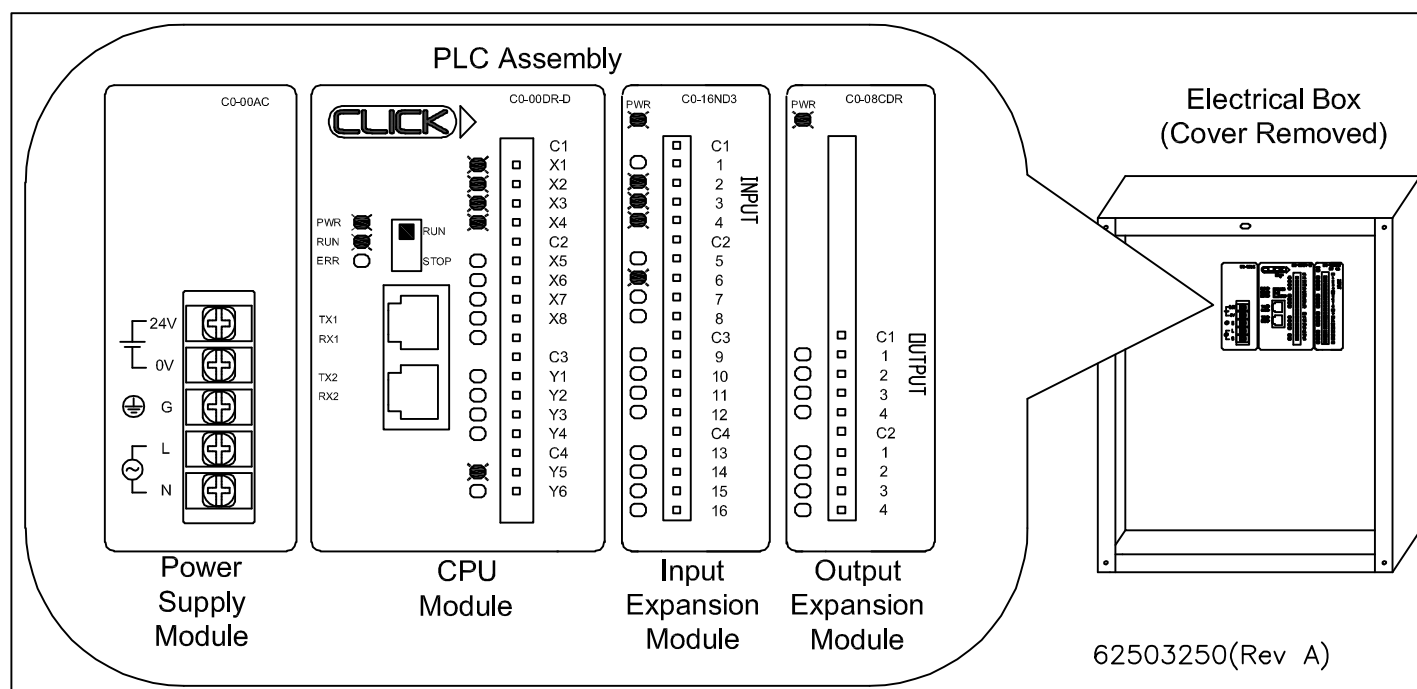

Figure 9
1. Refer to Figure 9 and PLC LED indicator status tables.
2. Figure 9 illustration represents normal LED status when:
Refer to PLC LED indicator status tables and Figure 9 for detailed information on PLC Inputs and Outputs status and trouble shooting.